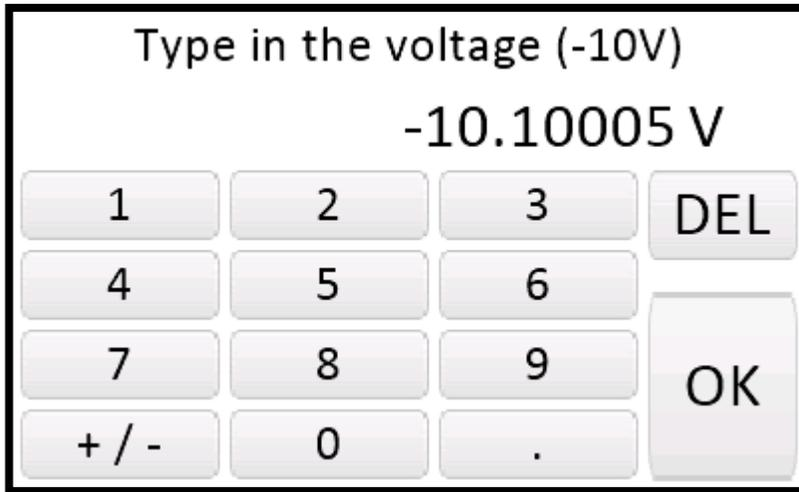

Figure 26. MAXREFDES183# Calibrate -Voltage input.
35. Next, the MAXREFDES183# will produce a “low” voltage of approximately “-10” between the UIO and GND (**Figure 26**). It should be stable in at least 5 digits, if not, then something is wrong with your setup. Once the voltage has stabilized, read the exact number read from the external DMM, as many digits as available, enter this value and click **OK**.